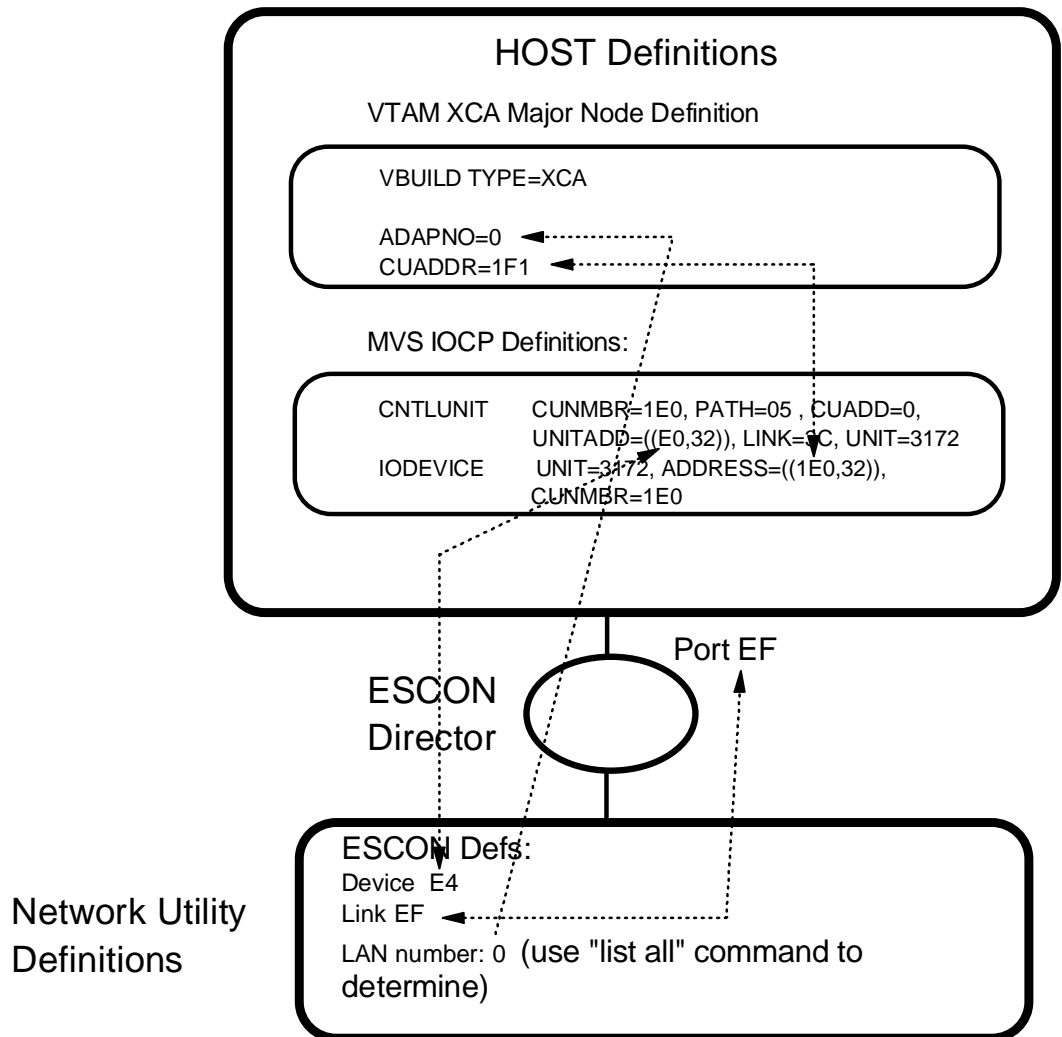

Figure 14-5. Host/Network Utility Parameter Relationships - LSA
The LSA Direct Interface: Figure 14-5 on page 14-8 shows how the configuration parameters for the Network Utility correlate to the host parameters for an LSA interface definition.
2. The device address specified in the Network Utility LSA interface definition must be within the range specified in the UNITADD parameter in the CNTLUNIT macro from the IOCP. For example, the UNITADD parameter in Figure 14-5 shows that 32 (decimal) device addresses starting at E0 (hex) are being reserved for the Network Utility definition. A device address of E4 has been specified for the Network Utility LSA interface. Since E4 is in the range between E0 and FF hex, this is OK as long as no other device (or interface on this Network Utility) tries to use that subchannel.
3. The value specified in the CUADDR parameter in the VTAM XCA major node definition must be within the range specified in the ADDRESS parameter in the IODEVICE macro from the IOCP. For example, the CUADDR parameter in the XCA major node definition in Figure 14-5 is 1F1 hex, which is in the range between 1E0 and 1FF that the ADDRESS parameter in the IODEVICE statement specifies.